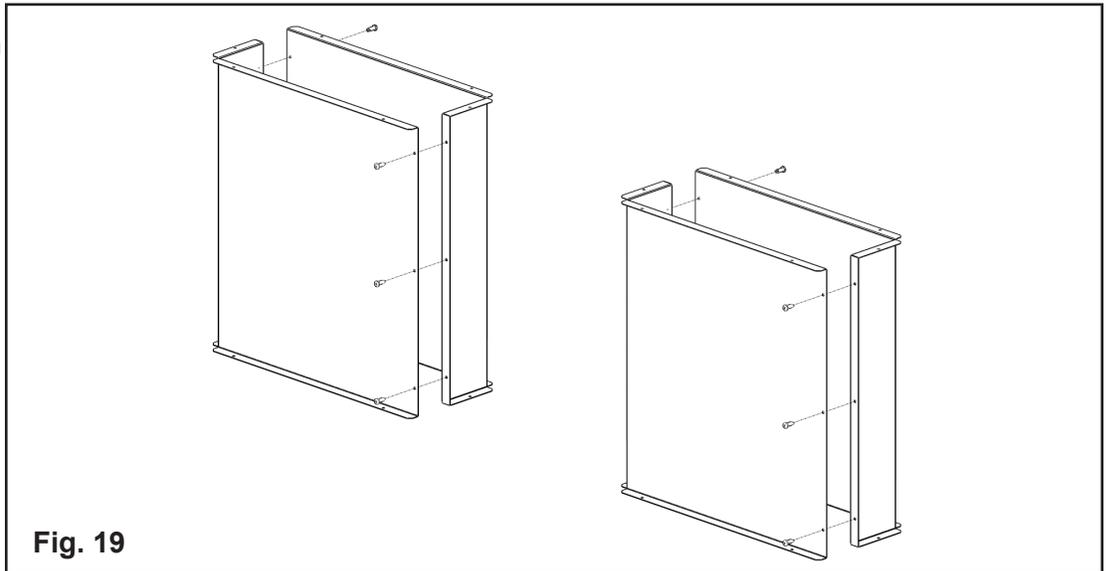

Fig. 19
5. If adding additional **Heat Duct Extension Kits S.Z5613** and/or **S.Z5614**, then do the following otherwise go to step 7. Screw the extension ducts together using screws supplied with the kit (12 screws). (**Fig. 19**)